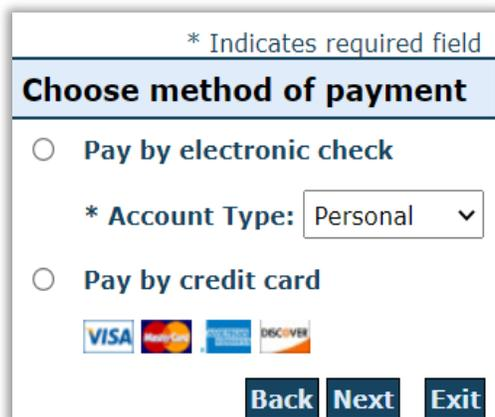

Figure 6-10 – Online Payment Method
Step 4: Select **Pay by electronic check** or **Pay by credit card**, when selecting **Pay by electronic check**, select Account type. The selections are Personal or Business depending on which checking account you want the funds to be drawn from. See Figure 6-10.